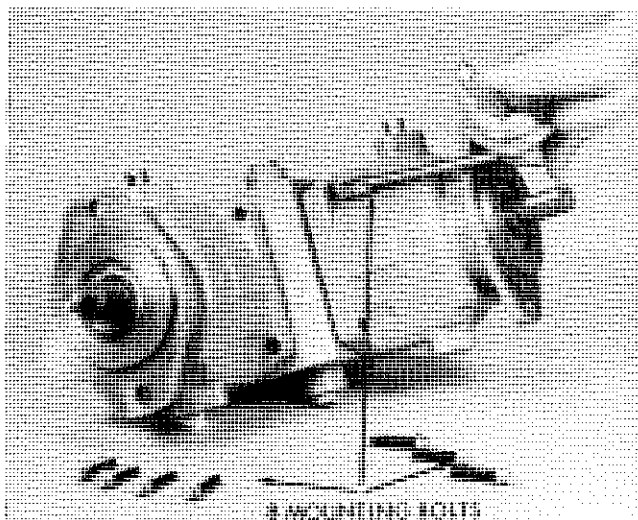

Figure VI-7. Removal of Hydrostatic Pump From Valve Plate
1. Removal of Hydrostatic Pump and Motor from Valve Plate (Figure VI-7).